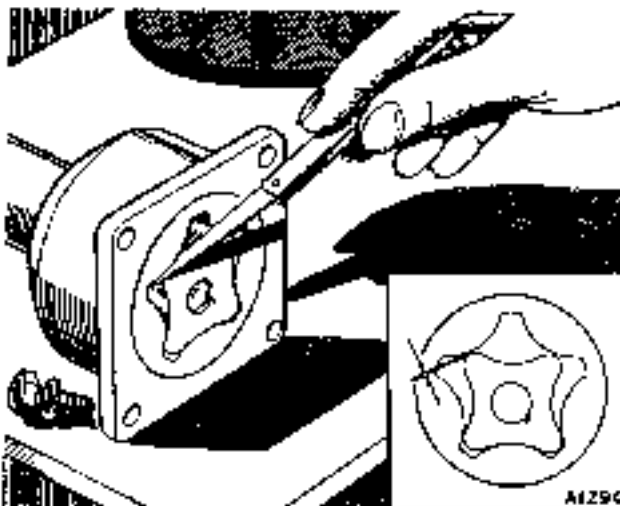

Fig. Aa.5
- (1) Install the rotors in the pump body, place a straight-edge across the joint face of the pump body, and measure the clearance between the top face of the rotors and the under side of the straight-edge. The clearance should not exceed .005 in. (.127 mm.). In cases where the clearance is excessive this may be remedied by careful lapping of the pump body face.
- (2) With the rotors installed in the pump body measure the clearance between the rotor lobes when they are in the position shown in Fig. Aa.5. If the clearance exceeds .006 in. (.152 mm.) the rotors should be renewed.